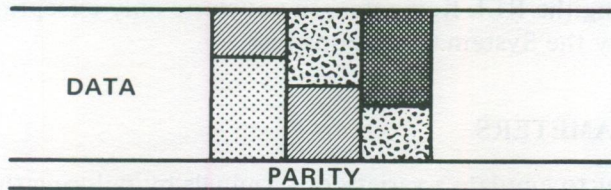

Figure 6-2. Packed Data (6-Bit Characters) on 9-Track Tape
- Frame 3: last 2 bits of third character and all of fourth character (Figure 6-2).